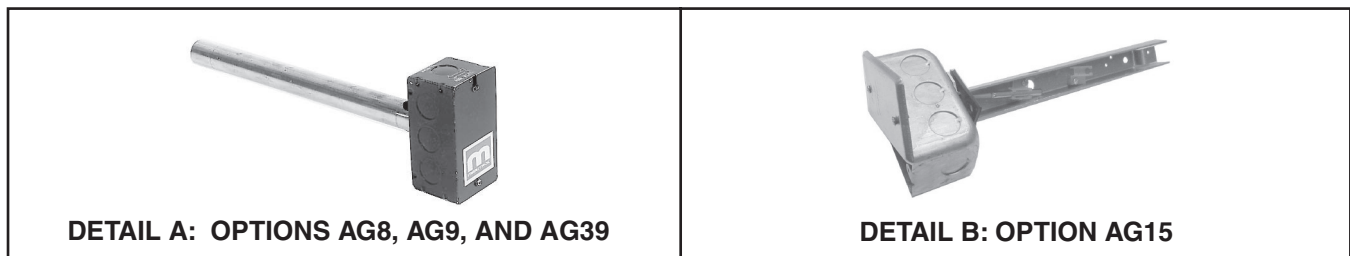

Figure 6. Discharge Air Temperature Sensor and Holder
- (1) Position of sensor in duct is also important—mixing tube shown in **Figure 6**, DETAIL A is 12 inches (305 mm) long and holder shown in **Figure 6**, DETAIL B extends 9-3/16 inches (233 mm) into ductwork.
- (2) Turn holder so that element is shielded from direct airflow and will sense air temperature as it flows through holes in holder.
- (3) At selected ductwork location, mark diamond-shaped hole—approximately 1 × 1 inch (25 × 25 mm—required for sensor holder or round hole required for mixing tube and cut hole no larger than necessary.
- (4) For units with option AG8, AG9 or AG39, slide mixing tube (see **Figure 6**, DETAIL A) into ductwork and attach sensor.
- (5) For units with AG15, push element into clip in holder (see **Figure 6**, DETAIL B), slide holder into ductwork, and position holder so that it shields sensor from direct airflow. Secure box portion of holder to ductwork using four field-supplied #6 sheet metal screws.